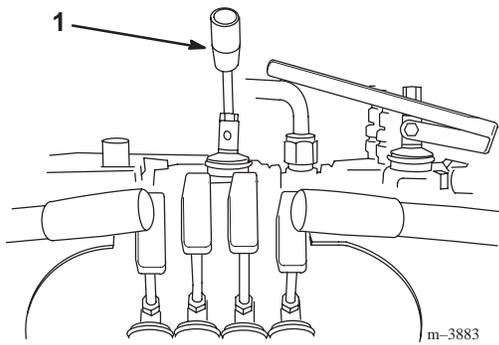

Figure 2
- 1. Thread the lever into the speed selector valve (Fig. 2).